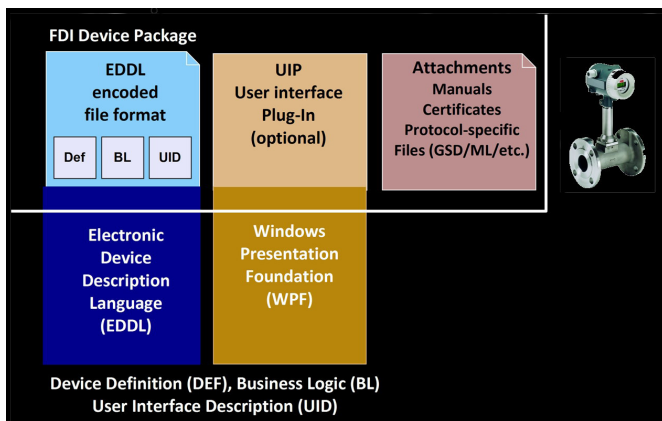

Figure. 1 FDI Device Package – one device, one package, all tools (image source: FDI)
The FDI device package will serve all devices and tools. Each device comes with an FDI package used by all the tools or systems, including standalone PCs, field instruments, and process control and automation systems. The FDI device package, Figure. 1, makes sure all device management tools function with Devices without any issues, regardless of the manufacturer. Each host interprets a device driver slightly differently to fit into the layout of its user interface (UI) layout. Device vendors typically design their driver for one preferred tool. Although the driver may adapt to the other tools, most often it still does so imperfectly.